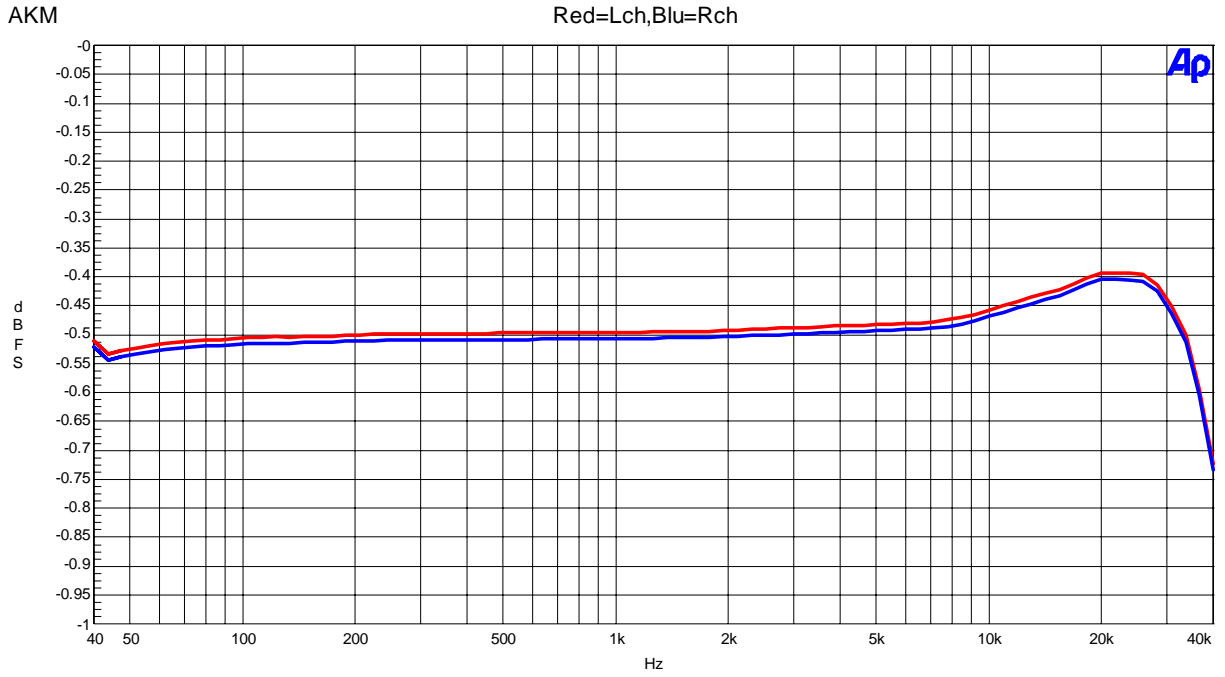

Figure 15. Frequency Response (Input Level=-0.5dBFS)
- Figure 15. FFT (Input Frequency =1kHz, Input Level =-0.5dBFS)